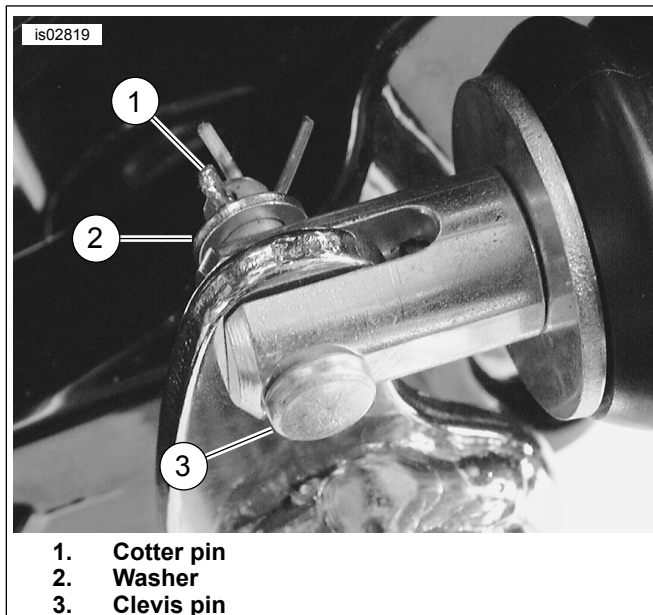

Figure 4. Rear Brake Control: Rear Mount
9. See Figure 4. Install master cylinder assembly on brake lever. Install washer (2) and new cotter pin (1) on clevis pin (3).